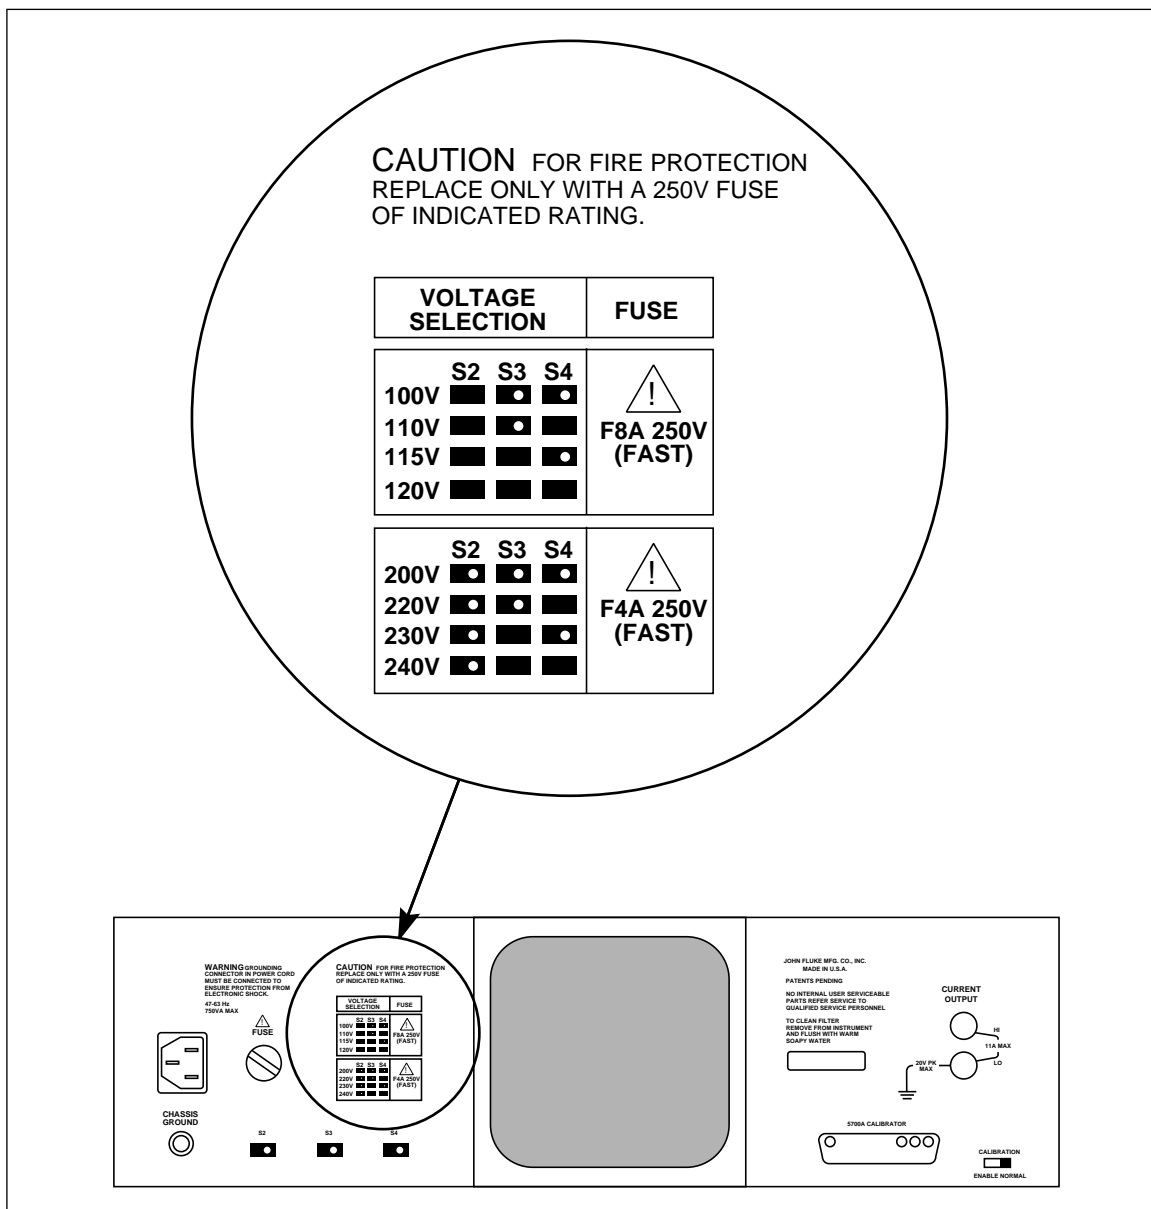

Figure 2-3. Line Power Label and Switch Location
The 5725A arrives from the factory configured for the line voltage normally appropriate for the country of purchase, or as specified at the time of purchase. Check the line power label on the rear panel of the 5725A to verify that the line voltage matches local line power. Figure 2-3 shows the location of the line power label and switches, and the switch settings for each line voltage.
To change the line voltage setting, set the line voltage selection switches to the correct setting shown in Figure 2-3.
**Before turning the 5725A on, make sure that the line voltage selection switches are set properly for your line voltage. Refer to Figure 2-3 or the line voltage switch label and check the line voltage setting now if you have not already done so.**